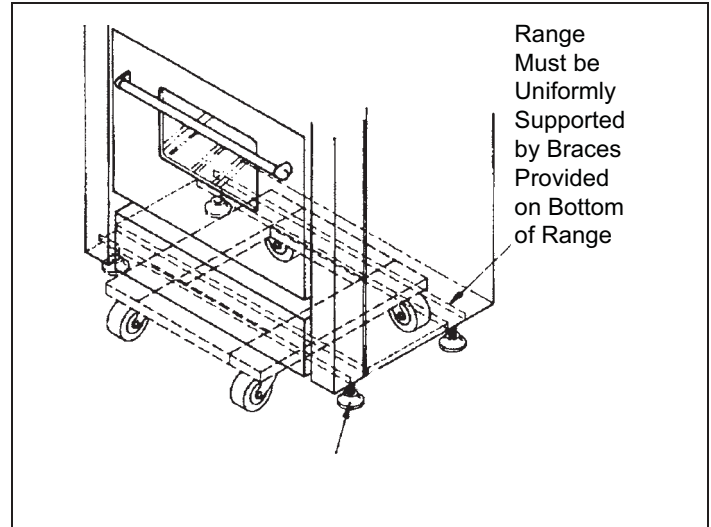

Figure 5: Dolly Positioning
- Due to the weight, a dolly with soft wheels should be used to move this unit. The weight must be supported uniformly across the bottom (See Figure 5).
- Replace the kick panel. **It is important that the two (2) screws retaining the kick panel are secure to prevent accidental access to hot surfaces.**